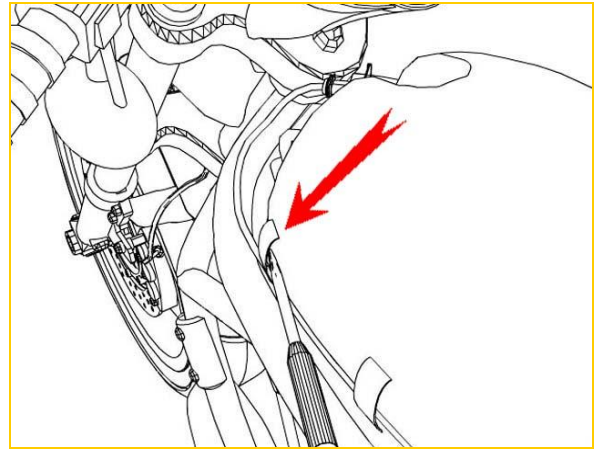

Fig 2
3. Use a screwdriver to disengage the 8 clips retaining the airbox lid. The front clip is not visible and must be reached from the left side. (Fig 2)